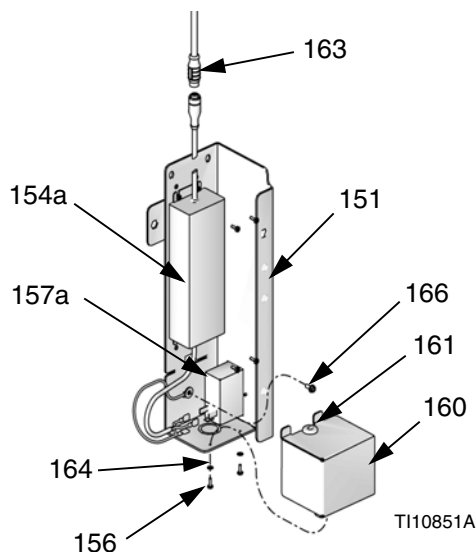

FIG. 39
- Mount power entry module (157a) and 100-240 VAC power supply (154a) on mounting bracket (151).
- Install power supply output cable to CAN cable (509). See FIG. 39.
- Connect brown wire to Line (L).
- Connect blue wire to Neutral (N).
- Install grounding screw (166) through eyelet terminal of power supply ground (green) pigtail wire and fasten to power supply enclosure (151).
- Install cover plate (160), screws (156), and washers (164).